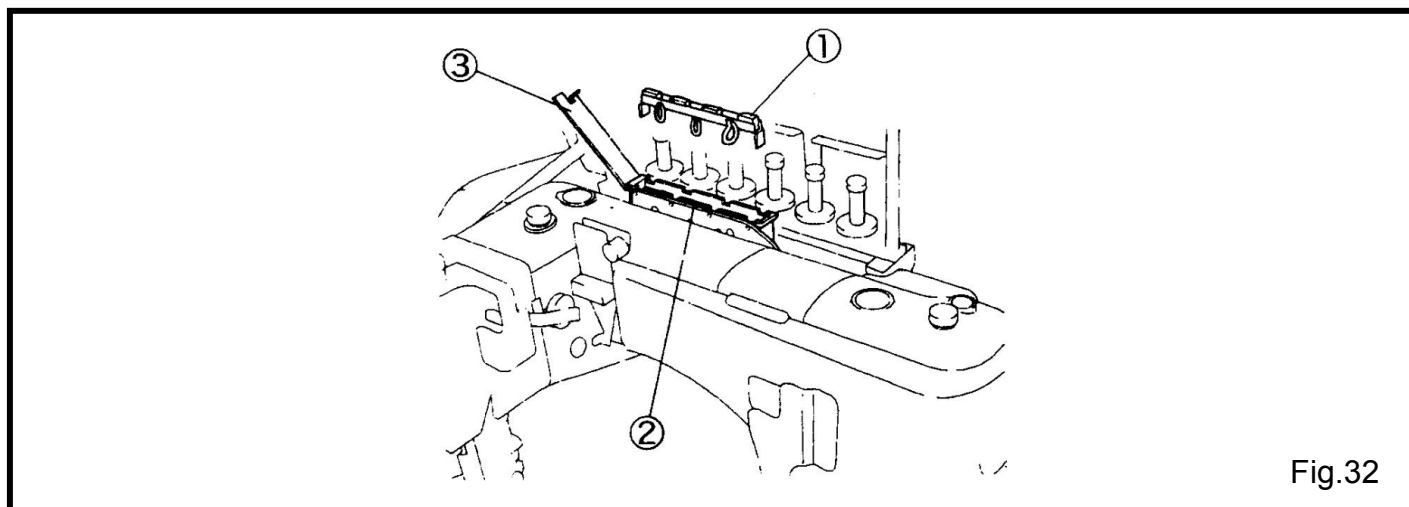

Fig.32
(Fig.32)
Fix the felts① included accessories into the SP tank② when using.(Fig.32)